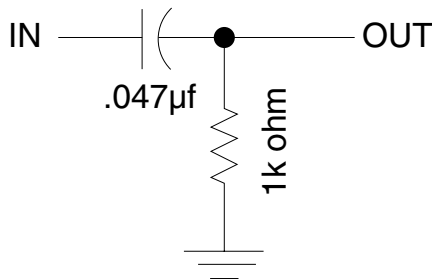
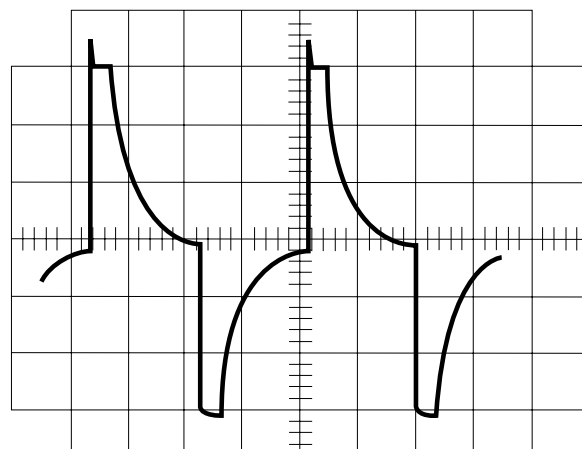

Figure 4.1 Differentiator Circuit
Figure 4.2 Differentiated wave form at current limit
**Procedure:** Load each channel to 1 Ohm. Inject a 1 kHz differentiated (or 10% duty cycle) square wave. See figure 4.1. Increase output level until current limit occurs. Current limit should occur at 43 - 48 Amps (43-48 Vpk). Disregard waveform overshoot. Observe clean (no oscillations) current clipping. See Figure 4.2 for differentiated wave form at current limit.